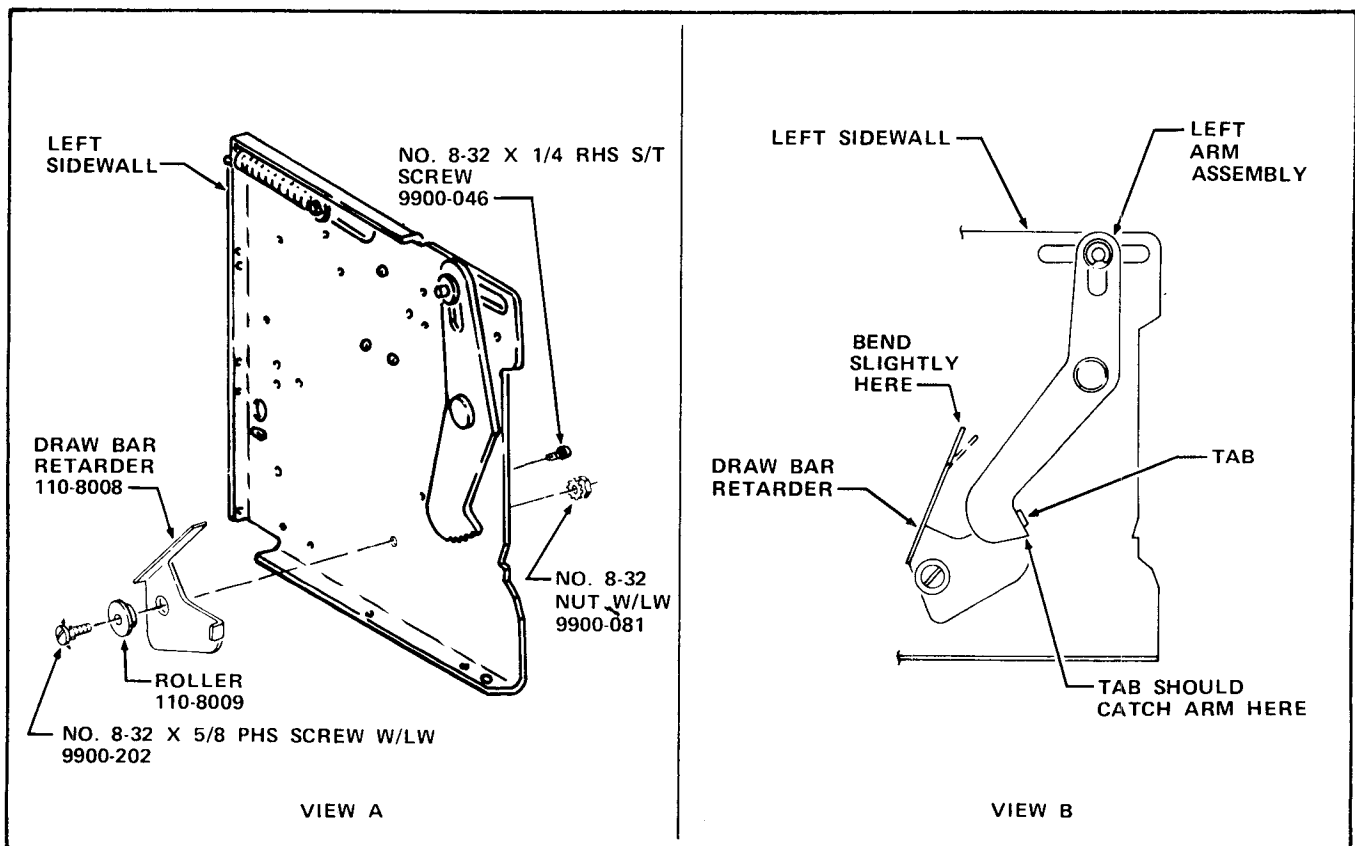

FIGURE 5-6
39. Install the Draw Bar Retarder, Part Number 110-8008, and Roller, Part Number 110-8009, on the Left Sidewall using a No.8-32 x 5/8 PHS Screw with Lockwasher, Part Number 9900-202, and a No.8-32 Nut with Lockwasher, Part Number 9900-081, all included in the Kit. Lubricate the Roller with Lubriplate. See View A of Figure 5-6.
40. Install a No.8-32 x 1/4 RHS Self Tapping Screw, Part Number 9900-046, included in the Kit, from the inside of the Left Sidewall so the Draw Bar Retarder Arm rests on the threads of the Screw. See View A of Figure 5-6.
When a pull knob is pulled too fast, the Draw Bar Retarder Tab will lock the Left Arm Assembly, preventing a "free" vend. To complete the vend cycle when this happens, pull the Pull Knob all the way out, which will release the Left Arm Assembly and allow the Pull Knob to return to the at rest position. If the Draw Bar Retarder does not satisfactorily lock the Left Arm Assembly when a Pull Knob is pulled fast, bend the Draw Bar Retarder Arm down slightly until the Draw Bar Retarder works properly. See View B of Figure 5-6.